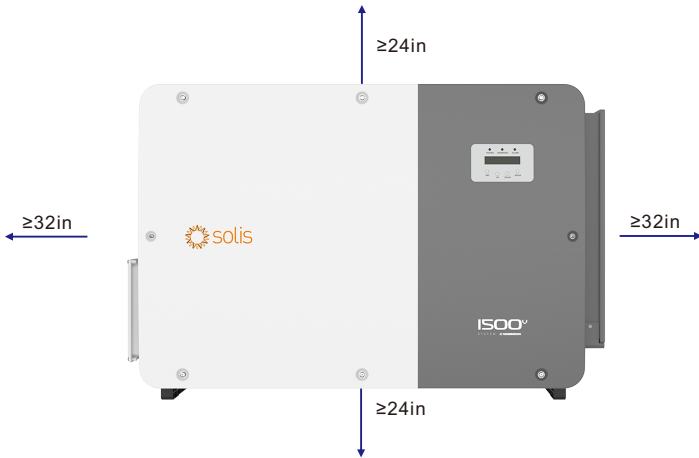

Figure 3.2 Clearance distances requirement for the inverter
- If multiple inverters are installed on site, a minimum clearance of 32 inches should be kept between each inverter and all other mounted equipment. The bottom of the inverter should be at least 24 inches above of the ground or floor (see Figure 3.2 and 3.3).